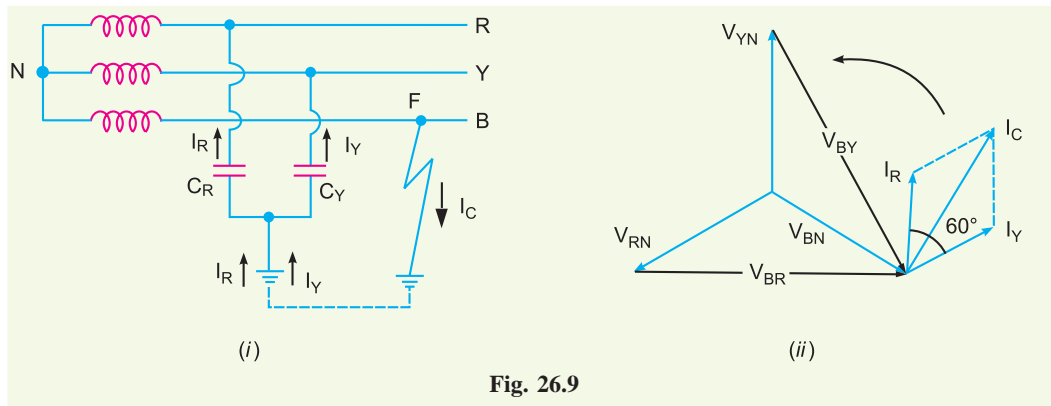

Fig. 26.9
**Circuit behaviour under single line to ground-fault.** Let us discuss the behaviour of ungrounded neutral system when single line to ground fault occurs. Suppose line to ground fault occurs in line  $B$  at some point  $F$ . The \*circuit then becomes as shown in Fig. 26.9(i). The capacitive currents  $I_R$  and  $I_Y$  flow through the lines  $R$  and  $Y$  respectively. The voltages driving  $I_R$  and  $I_Y$  are  $V_{BR}$  and  $V_{BY}$  respectively. Note that  $V_{BR}$  and  $V_{BY}$  are the line voltages [See Fig. 26.9(ii)]. The paths of  $I_R$  and  $I_Y$  are essentially capacitive. Therefore,  $I_R$  leads  $V_{BR}$  by  $90^\circ$  and  $I_Y$  leads  $V_{BY}$  by  $90^\circ$  as shown in Fig. 26.9(ii). The capacitive fault current  $I_C$  in line  $B$  is the phasor sum of  $I_R$  and  $I_Y$ .
† Referring to Fig. 26.9(ii), the magnitudes of  $I_R$  and  $I_Y$  are equal and the angle between them is  $60^\circ$ . Therefore, the resultant capacitive fault current  $I_C$  is given by: